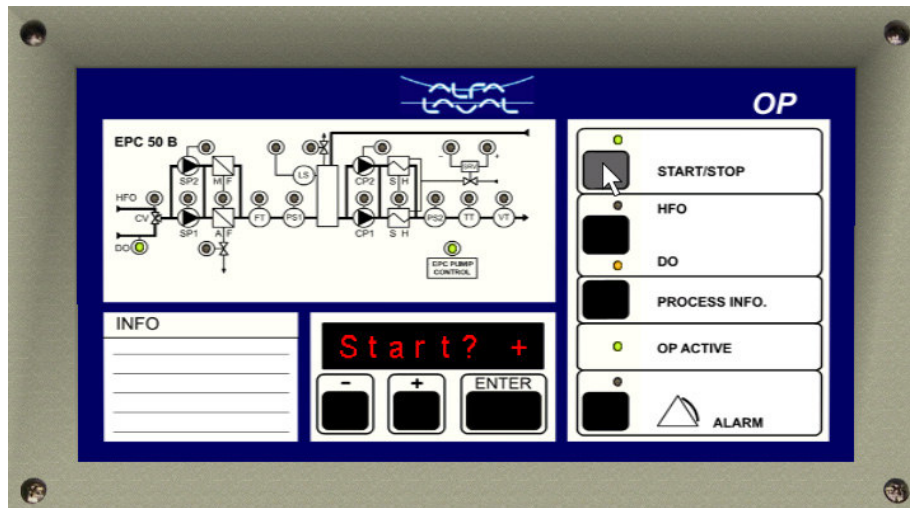

Fig. 31. Starting EPC
2. Press “Start” on the EPC. A question will appear in the display, “Start?” + = Yes - = No” (fig. 31). Pressing the “+” button will start the system. Pumps and heating will be started according to the module starting sequence.